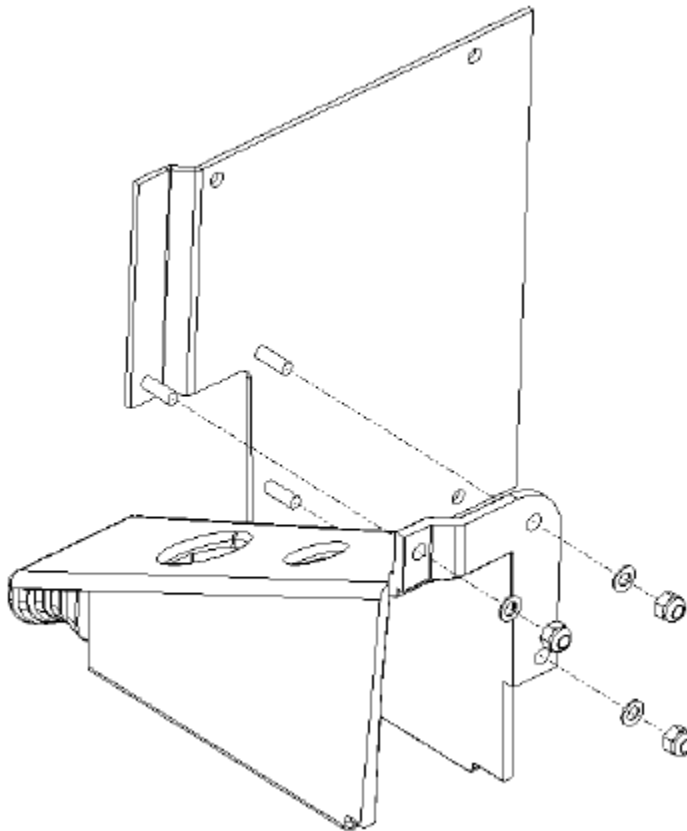

Figure V-1: Removing the Sample Rack Scanner Cover
1. Remove the handle and cover assembly from the sample rack scanner, then remove the Sample Rack Scanner Cove (Figure V-1).